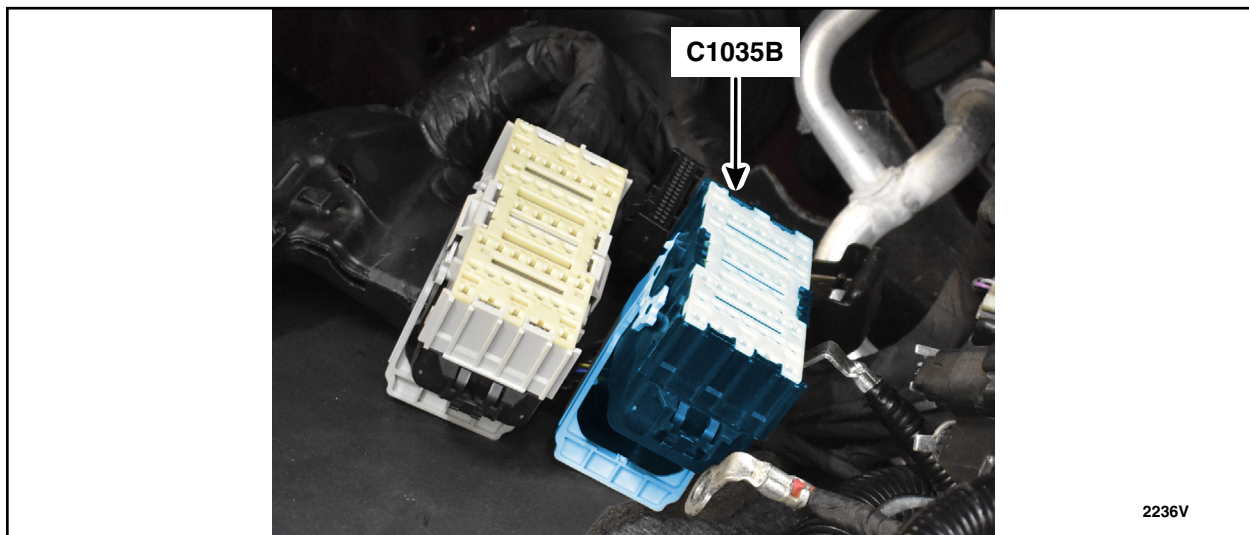

FIGURE 28
33. Locate the black 50-way connector (C1035B). See Figure 28.